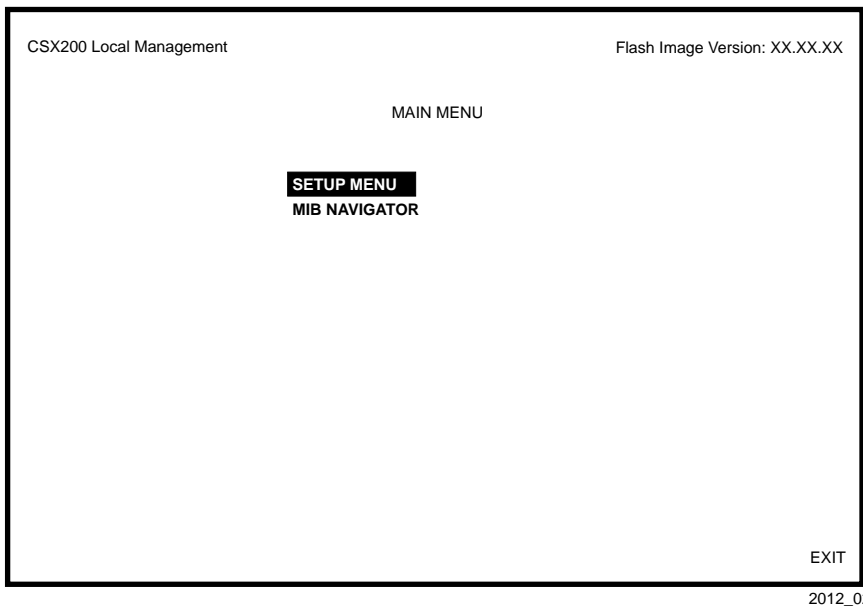

Figure 48 Main Menu Screen
- If you enter a valid password, the associated access level displays at the bottom of the screen and the Main Menu screen, **Figure 48**, displays.
The Main Menu screen is the starting point from which all the Local Management screens are accessed. **Figure 48** shows the Main Menu screen.